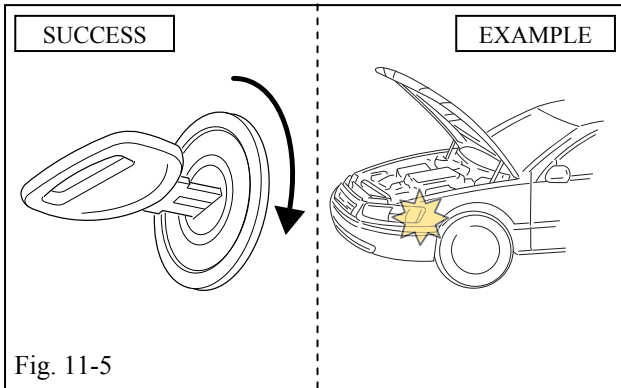

Fig. 11-5
- (h) Start the Engine. (Fig. 11-5)
- (i) After 10 seconds stop the Engine. (Fig. 11-5)